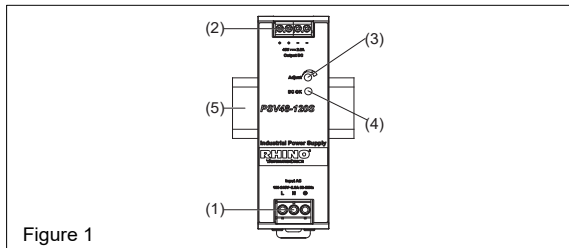
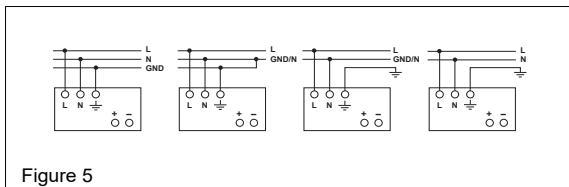

Figure 1
Figure 5
**2. Device description (Fig. 1)**
**5.1. Input connection (Fig. 1, Fig. 5)**
Use L, N and GND connections of input terminal connector (see Fig. 1 (1)) to establish the 100-240 VAC connection. Typical connection methods are shown in Figure 5.
**5.2. Output connection (Fig. 1 (2))**
Use the "+" and "-" screw connections to establish the 48 VDC connection. The output provides 48 VDC. The output voltage can be adjusted from 44 to 56 VDC on the potentiometer. The green LED DC OK displays correct function of the output (Fig. 1 (4)). The device has a short circuit and overload protection and an overvoltage protection limited to 56-67.2 VDC.